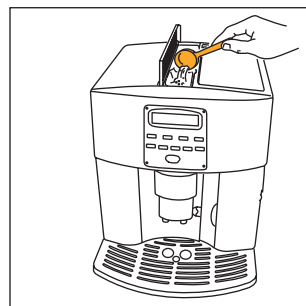

Fig.17
- Lift the lid in the centre, place one measure of ground coffee in the funnel (see fig. 17) and proceed as described in section 6. NB: You can only make one coffee at a time by pressing the ,  or  button once only.